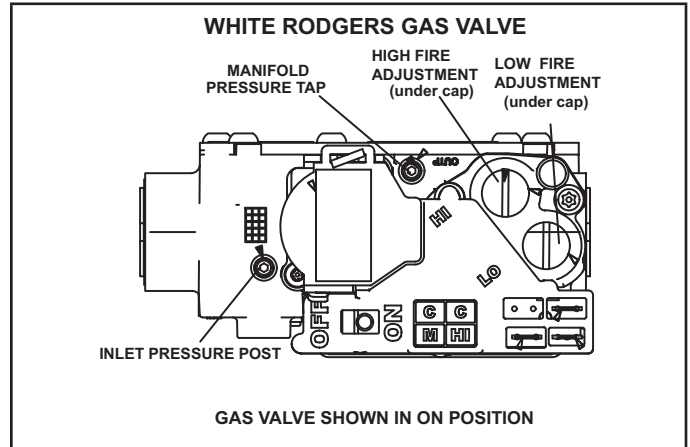

FIGURE 50
Gas Valve Operation (FIGURE 50)
- 6 - Move gas valve switch to **OFF**. See FIGURE 50.
- 8 - Move gas valve switch to **ON**. See FIGURE 50.
An inlet pressure post located on the gas valve provides access to the supply pressure. See FIGURE 50. Back out the 3/32 hex screw one turn, connect a piece of 5/16 tubing and connect to a manometer to measure supply pressure. See table 28 for supply line pressure.
A manifold pressure post located on the gas valve provides access to the manifold pressure. See FIGURE 50. Back out the 3/32 hex screw one turn, connect a piece of 5/16 tubing and connect to a manometer to measure manifold pressure.
- 4 - After allowing unit to stabilize for 5 minutes, record low fire manifold pressure and compare to value given in TABLE 28. If necessary, make adjustment. FIGURE 50 shows location of low fire adjustment screw.
- 5 - Repeat on high fire and compare to value given in TABLE 32. If necessary, make adjustment. FIGURE 50 shows location of high fire adjustment screw.